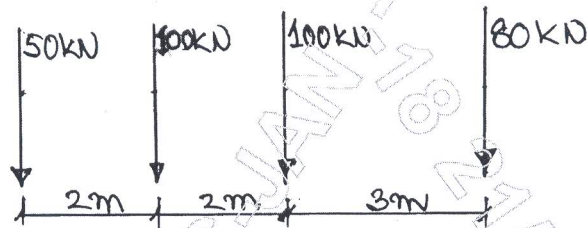

Fig.Q10
- 10 For a simply supported beam of span 25m with the series of concentrated loads to be taken as rolling load system as shown in Fig.Q10. Compute the following by influence line principles.